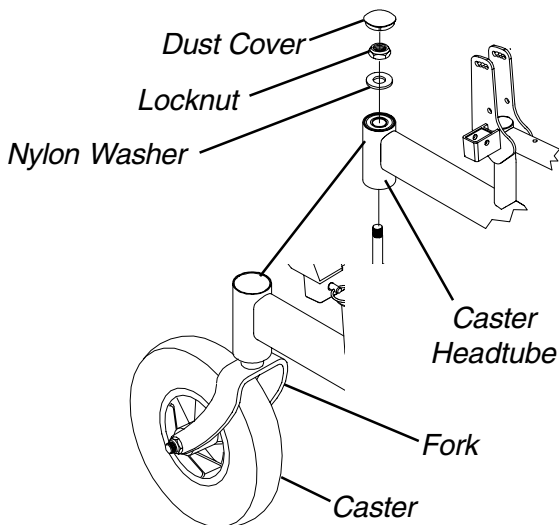

FIGURE 4 - ADJUSTING FORKS
**ADJUSTING FORKS (FIGURE 4)**